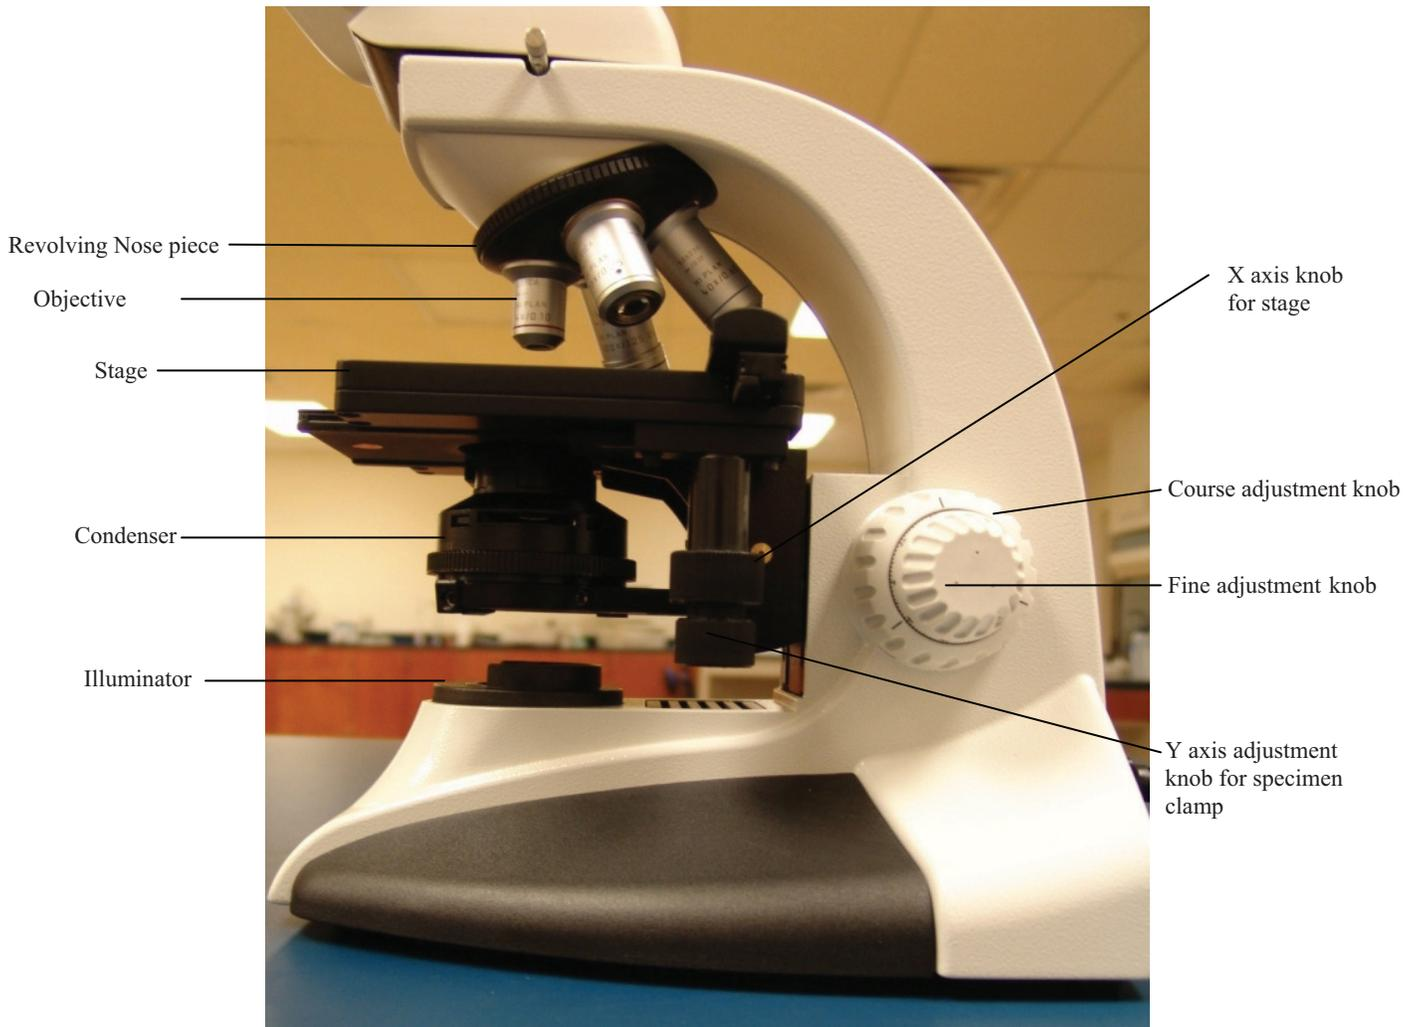

Figure 2: Leica DME microscope right side component view
- 9.2. Figure 2: Leica DME microscope right side component view